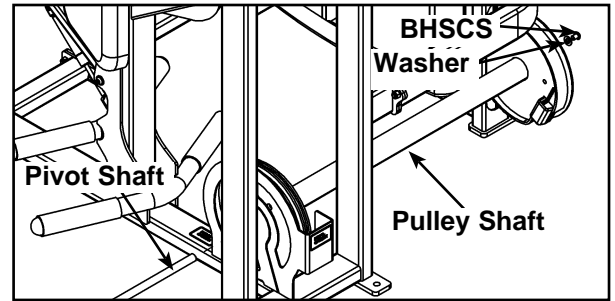

Figure 2
E. Remove one of the two BHSCS (Button Head Socket Cap Screws) securing the pivot shaft. See Figure 2.
J. Carefully attach pulley shaft using the pivot shaft and BHSCS removed in steps 4E and 4F. See Figure 2.